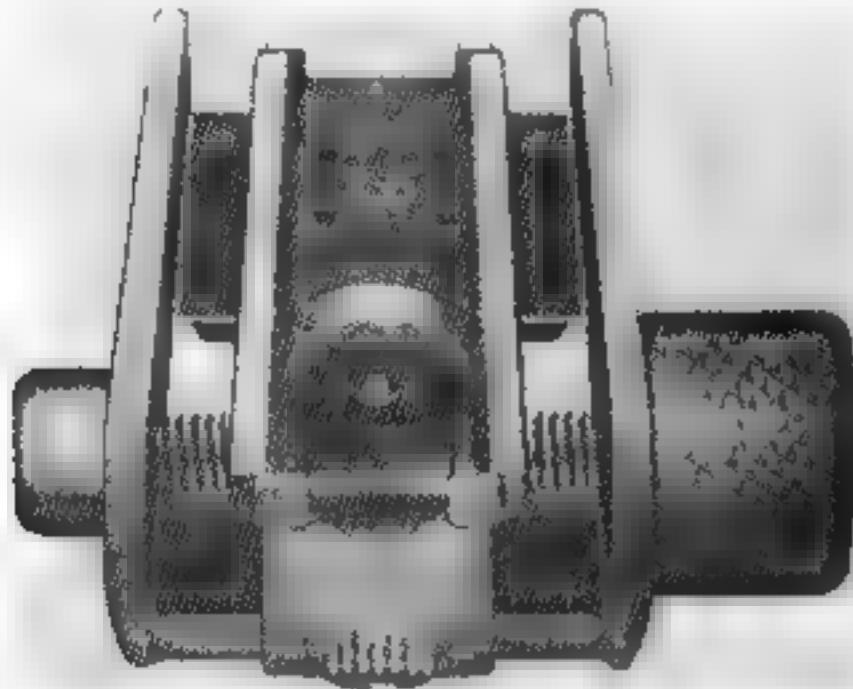

Figure 43a. The rear sight.
a. The rear sight of your carbine is adjustable (Fig. 43a), enabling you to engage targets accurately up to the maximum effective range. It has an elevation slide and a windage knob. The rear sight ramp has the numbers 1, 2, 25, and 3 corresponding to 100, 200, 250, and 300 yards of range. There is a corresponding indentation on the ramp for each of these ranges. The sight setting for 100 yards is also used for firing at 150 yards. The base of the rear sight has graduations for windage.